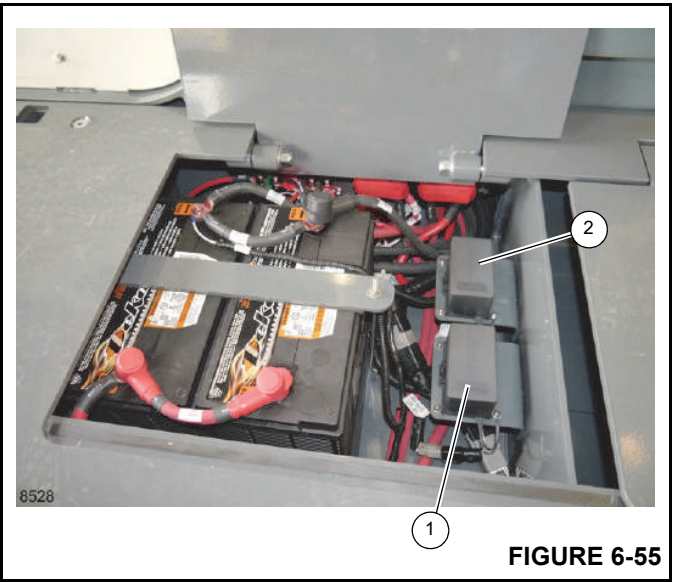

FIGURE 6-55
There are two fuse panels in the battery compartment, fuse block 3 (1, Figure 6-55) and fuse block 4 (2). Refer to TABLE 6-1 and TABLE 6-2 for identification of the fuses.